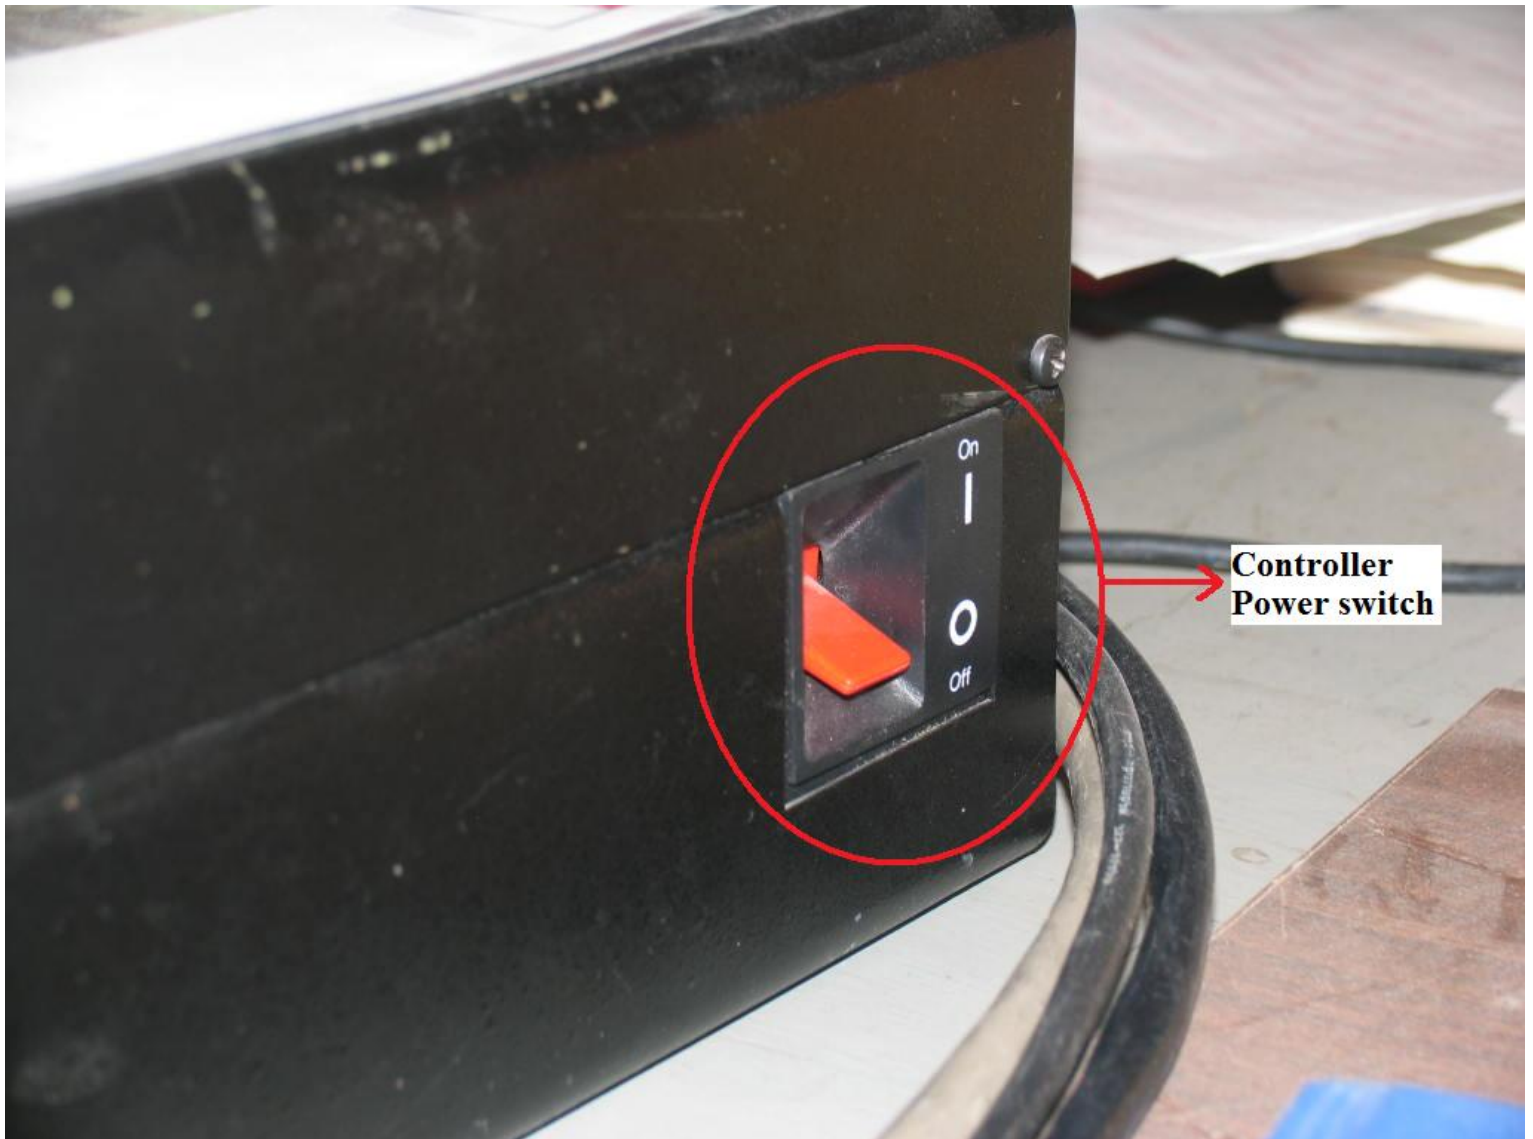

Figure 11: Controller Power ON/OFF switch
1. Turn the controller power ON (see Figure 11). This will illuminate the yellow pilot light indicating that the SCORBOT is powered ON.
4. Turn OFF the controller power (See figure 11). The Yellow light will turn OFF indicating no power supply to the controller.